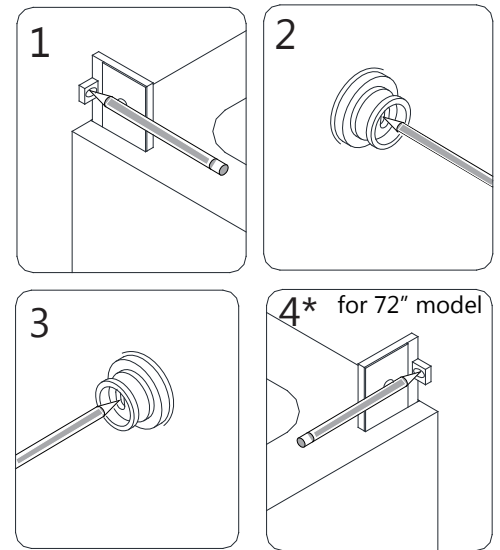

Fig 11
***NOTE:** If installing the **72" model**, perform the same procedure on the opposite wall to mark the **Wall Bracket (#19)** for the **Small Stationary Panel Glass (#23)** (see Fig 11.4*). **(Fig 11)**